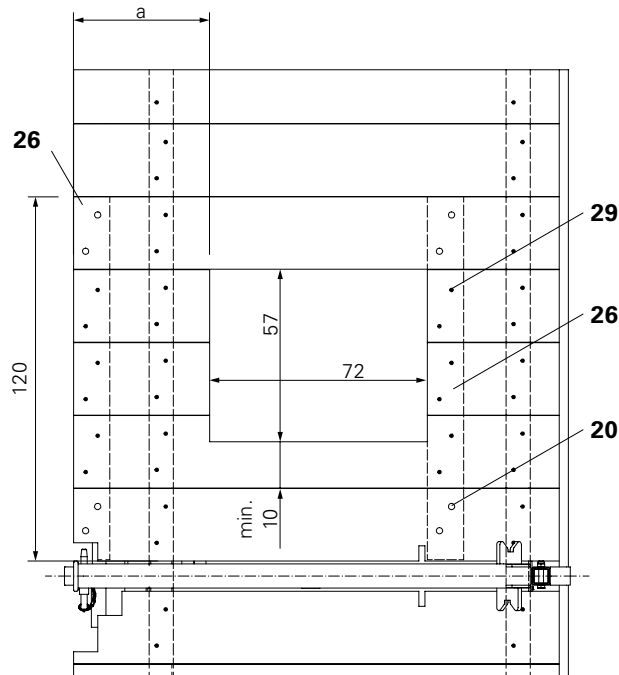
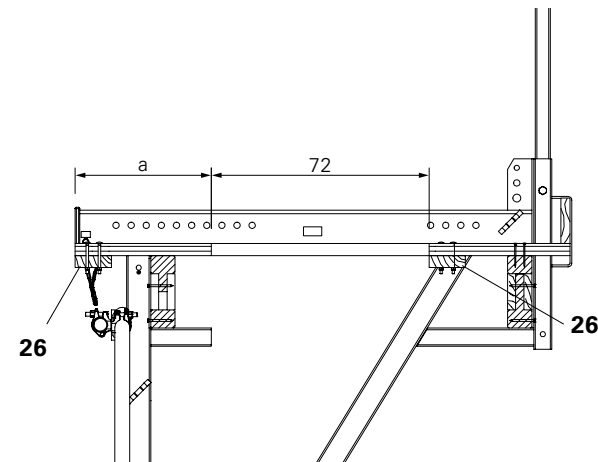

Fig. A2.02
Fig. A2.03
- Support the cut planks with timbers (26), $L = 120$ cm, min. 120×40 mm, and secure with TSS-TORX 6 x 80 (29).
- Screw timbers (26) 2x each to the laterally-positioned end-to-end planking. F. H. Bolts DIN 603 M8 x 100 MU (20) with Washer ISO 7094 100 HV A8. (Fig. A2.02 + Fig. A2.03)